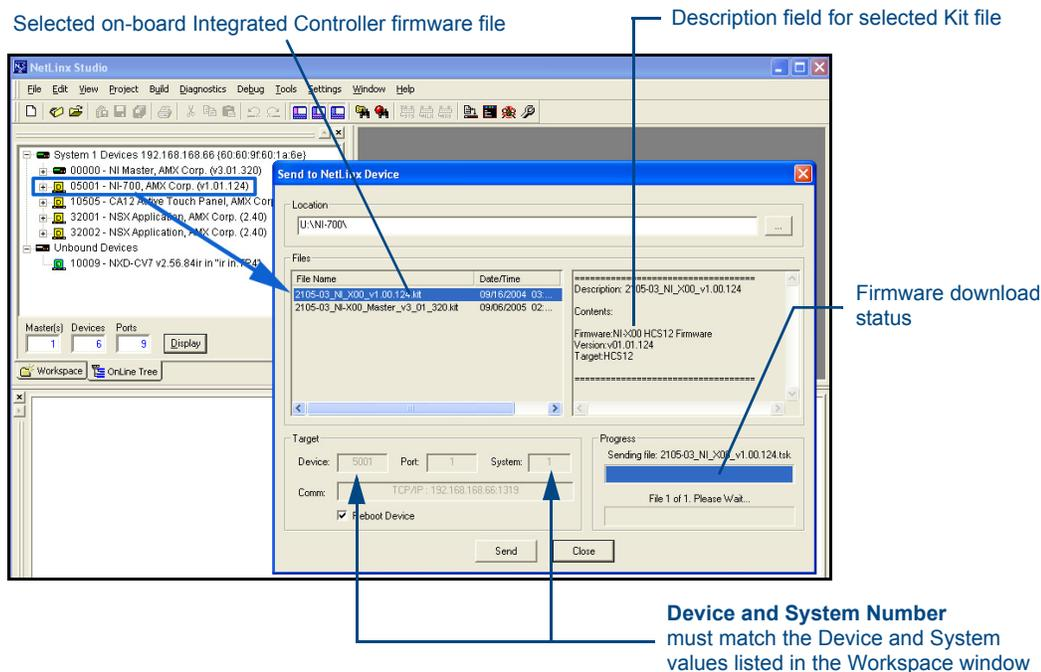

FIG. 31 Send to NetLinx Device dialog (showing on-board Integrated Controller firmware update via IP)
- From within NetLinx Studio, select **Tools > Firmware Transfers > Send to NetLinx Device** from the Main menu to open the *Send to NetLinx Device* dialog (FIG. 31). Verify that the target's System number matches the value listed within the active System folder in the **OnLine Tree** tab of the Workspace. **The Device must match the entry for the on-board Integrated Controller (NI-X000/NI-X000) device.**
8. Select the Integrated Controller's (**_X00**) from the **Files** section (FIG. 31).
11. Click **Send** to begin the transfer. The file transfer progress is indicated on the bottom-right of the dialog (FIG. 31).